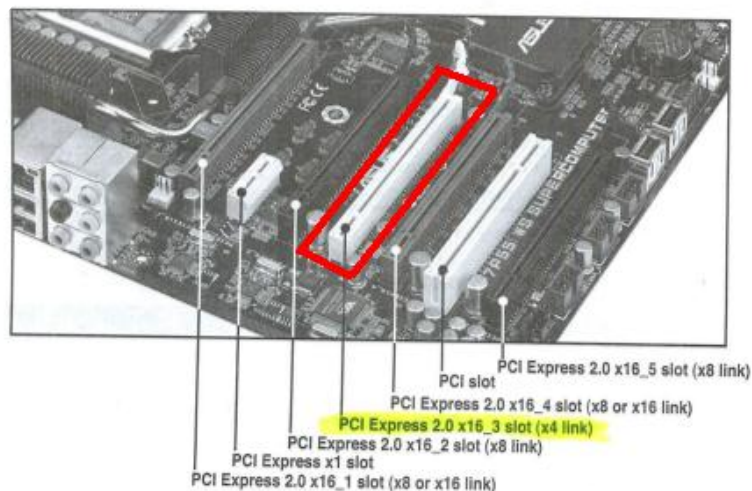

Figure 5: Slot where the PCI Extender should be plugged
- 3) Confirm that the computer is switched off and plug the PCI Extender board into the slot indicated in Figure 5. It is recommended to use the provided metal stick and the screws to fix the PCI Extender into the computer box.